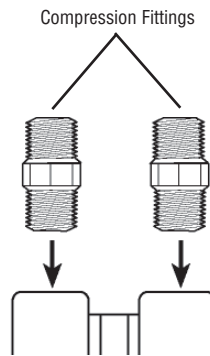

Figure 4
4. Screw one fitting into the filter outlet and the other fitting into the filter inlet (both are labeled on filter head assembly). Tighten both fittings with a wrench. **Do not overtighten. Overtightening may result in a cartridge crack which may lead to fluid leaking** (Figure 4)